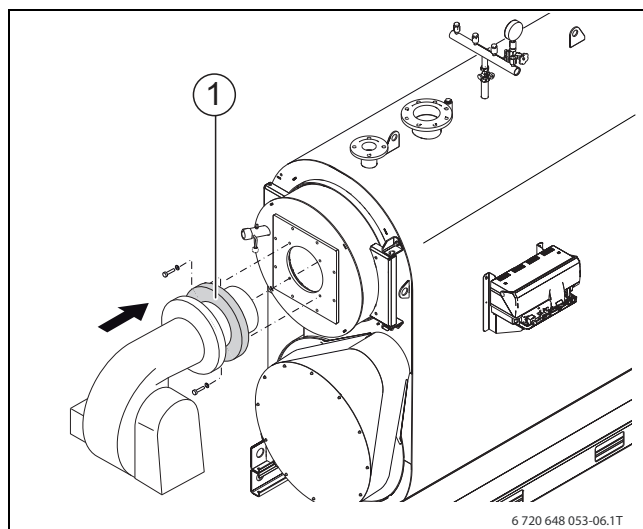

Fig. 20 Fitting the gasket
- ▶ Push a gasket (→ fig. 20, [1], page 23) onto the burner connector.